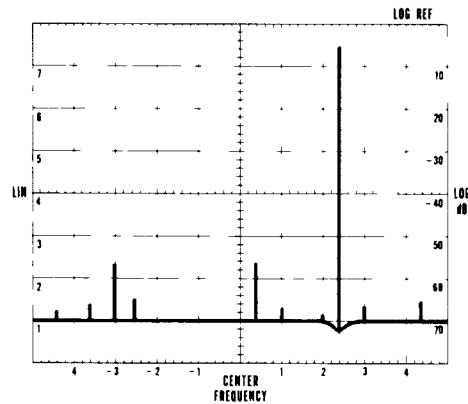
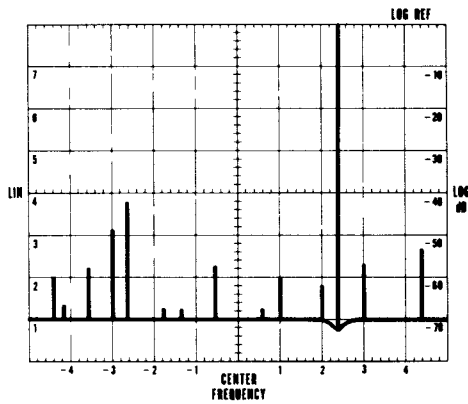

Figure 3-5a.
Figure 3-5b
- 20 Note signal display similar to Figure 3-5a. Decrease INPUT ATTENUATION to 30 dB. Note display similar to Figure 3-5b. Note that some signal levels increased more than 10 dB. The input mixer is being overdriven (see Mixer Diode Characteristics, paragraph 3-13).
- 27 Signals shown in Figure 3-5b (mixer overdriven) are as follows: